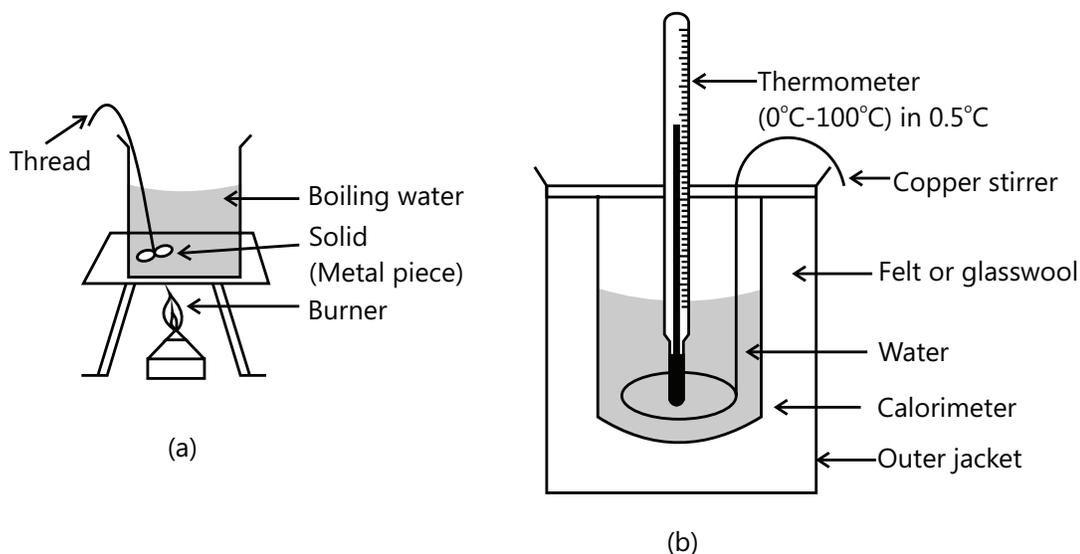

Figure 27.19
Place a 250mL beaker on the wire gauze kept on a tripod stand as shown in the Fig 27.19 (a).
Fill the beaker containing water by tying the other end of the thread to a laboratory stand. The solid should be completely submerged in the water and should be atleast 0.5cm below the surface. Now, heat the water with the solid suspended in it [Fig 27.19 (a)].
- (vi) Let the water in the beaker boil of about 5-10 minutes. Now measure the temperature  $t_2$  of the water with the other thermometer, and record the same. Holding the solid with the thread tied to it, remove it from the boiling water, and shake it to get rid of the water on it and quickly put it the water in the calorimeter, immediately replacing the lid [Fig. 27.19(b)]. Stir the water with the stirrer. Measure the temperature of the mixture till it becomes constant. Record this temperature as  $t_3$ .
Place a 250 ml beaker on the wire gauze kept on a tripod stand as shown in Fig 27.19 (a). Fill the beaker halfway with water. Now suspend the solid in the beaker containing water by tying the other end of the thread to a laboratory stand. The solid should be completely submerged in water and should be atleast 0.5cm below the surface. Now heat the water with the solid suspended in it.